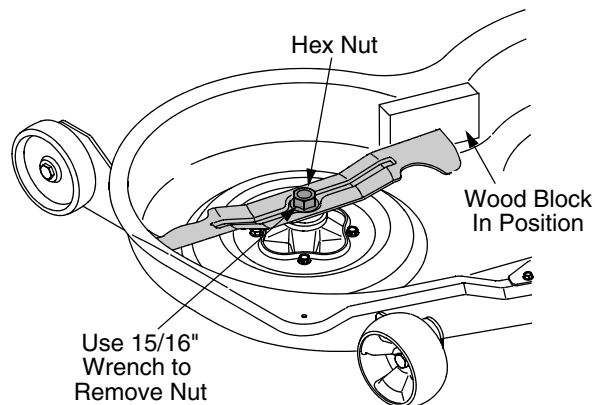

Figure 36
- Use a 15/16 inch wrench to hold the hex nut on top of the spindle assembly when loosening the hex nut securing the blade. A block of wood may be placed between the deck housing and the cutting edge of the blade to help in breaking loose the hex nut securing the blade. Refer to Figure 36.